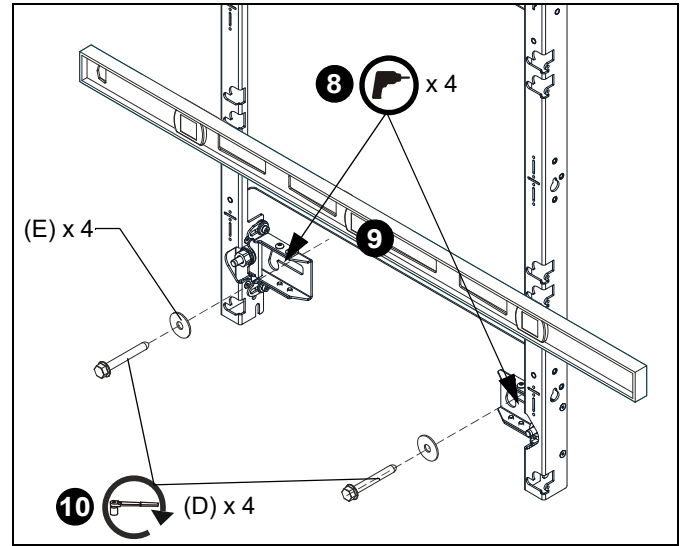

Figure 19
8. Drill pilot holes in centerline of each mounting slot on each leveling foot of the added mount (see Table 1 for size) and follow fastener information (appropriate for wall type) located in Table 1. (See Figure 19)
9. Double check the level of the mount at the bottom of the teardrop slots, and make sure the new mount stays perfectly aligned with the upper or lower mount to which it was attached. (See Figure 19)
10. Fully tighten the 5/16 x 2-1/2" lag screws (D) through the 5/16" fender washers (E). (See Figure 19)